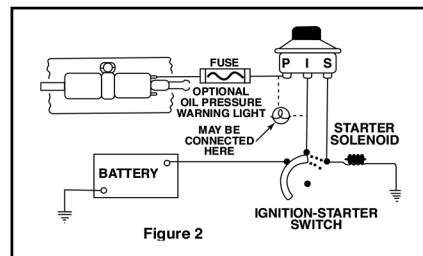

Figure 2
6. Install provided spade terminals onto both ground and positive wires. Wires should be a minimum of 16 gauge. Connect the ground wire to the negative (-) terminal on the pump. Connect the other end of the ground wire to the provided ring terminal. Connect the ring terminal to a suitable ground such as the mounting bracket screw. Connect the positive wire to the positive (+) terminal on the pump. Positive wire must be long enough to run to the power source or oil pressure switch (see Figure 2). A 5-amp in-line fuse should be used at the power connection. When routing the positive wire, be sure to anchor it securely at frequent intervals to prevent damage and protect it from sharp edges and moving parts.